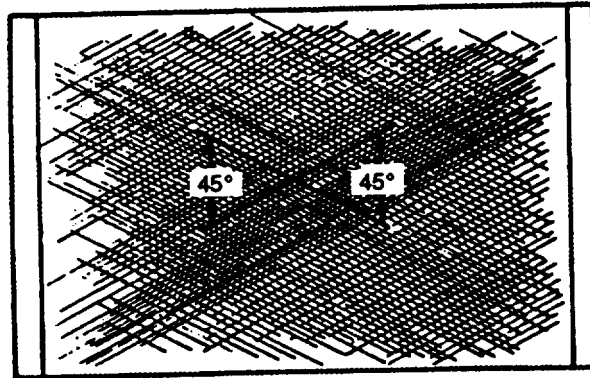

FIGURE 3-143. Deglazed 45 Degree Cross Hatch Pattern
- (3) Use deglazer, to deglaze liner and obtain a 45 degree cross hatch pattern, refer to FIGURE 3-143.
- Move deglazer in an up and down direction 10 to 12 complete strokes per cylinder. Move deglazer rapidly enough to obtain a 45 degree crosshatch pattern as shown in FIGURE 3-143.